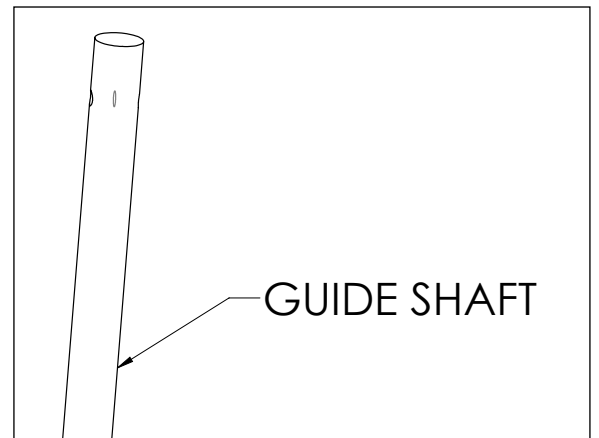

Figure 10. Leg Pull Pin For Leg Locked in Place
7. Pull the Leg Pull Pin [P-MM0023] outward and slide the leg into the sleeve until the Leg Pull Pin is able to snap into the leg hole. See Figure 10.